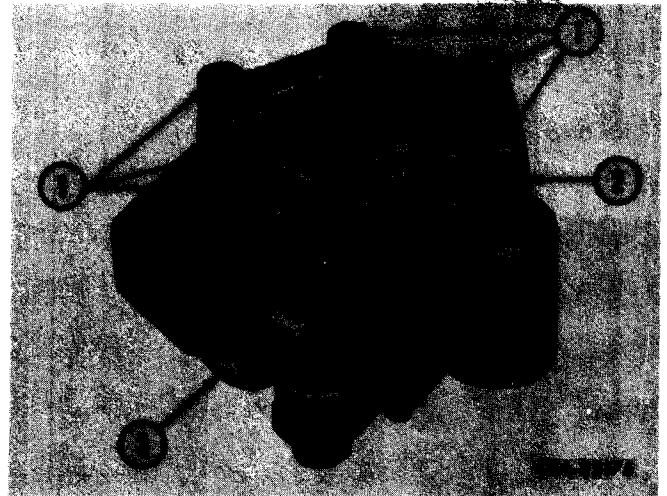

Figure 13-42
Remove cap screws and lock washers (1, Fig. 13-42) that fasten cover (2) to body (3).
Place cap assembly (2, Fig. 13-42) in body (1) and secure with cap screws (3).